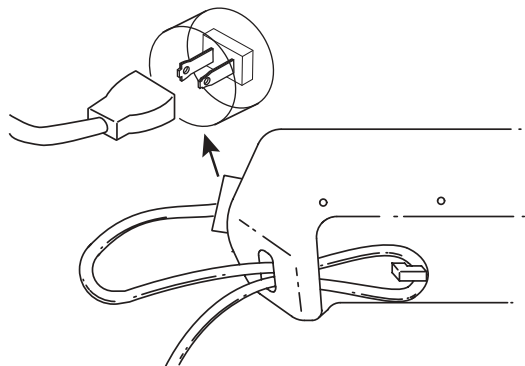

Fig. 9
2. Push the loop through the opening and move it onto the hook on the motor housing (Fig. 9).